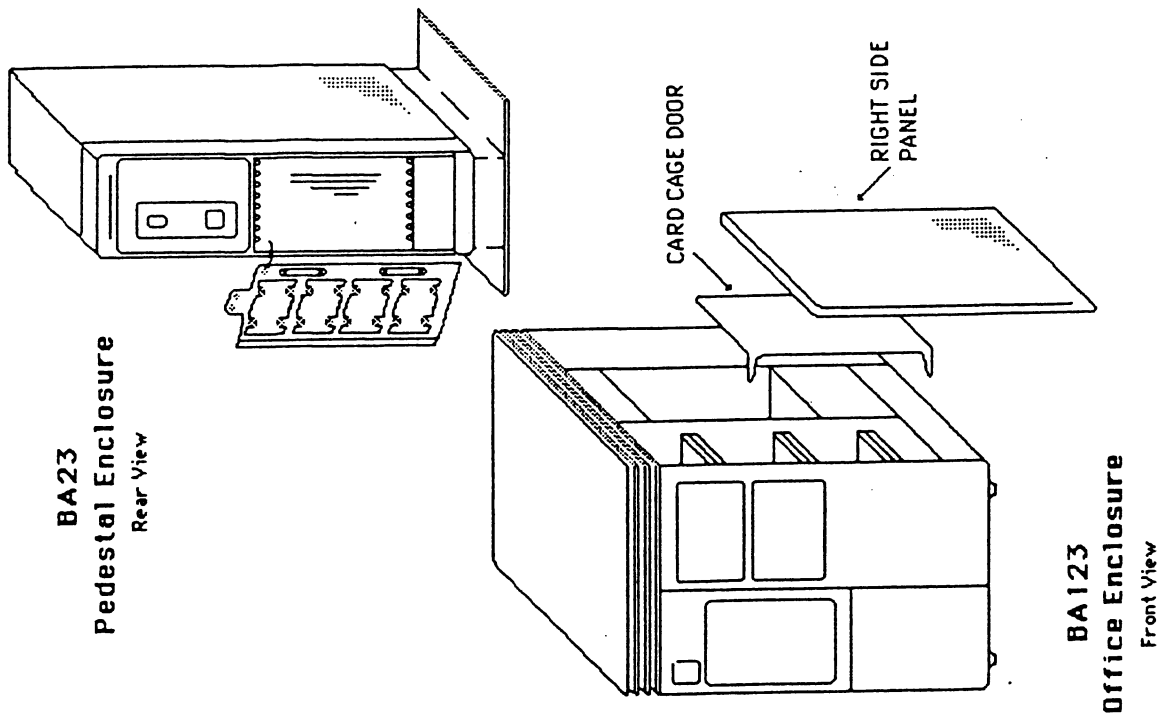

Figure 2-5: Accessing the Card Cage
representative for assistance. Figures 2-5 and 2-6 give examples of installing the board into DEC BA 23 pedestal enclosures, BA123 office enclosures, and H9642 cabinets.
2. Open the system cabinet and find a vacant quad Q-bus slot for the board. Keep in mind that priority level 4 devices should be located behind the QNVERTER II, priority level 5, 6, and 7 devices should be placed ahead of the QNVERTER II. Remove any bus grant continuity card from the slot. See Figure 2-5.